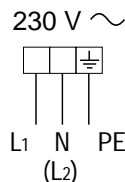

Fig. 42
- Connect the phase and earth cables to the terminal block "B" according to the diagram in figure 42.